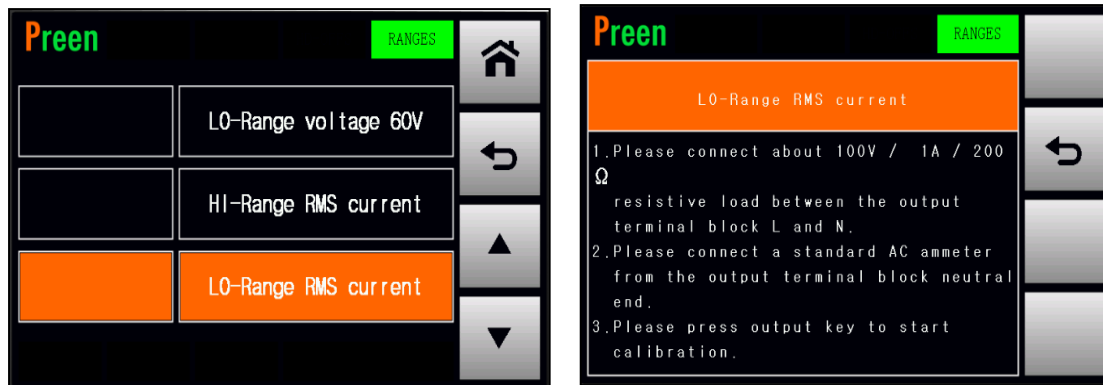

Figure 4.15 Enter into the page which calibrates the LO-Range RMS current
1. Press the item HI-Range RMS current repeatedly to enter into the page which calibrates the LO-Range RMS current (refer to Figure 4.15).